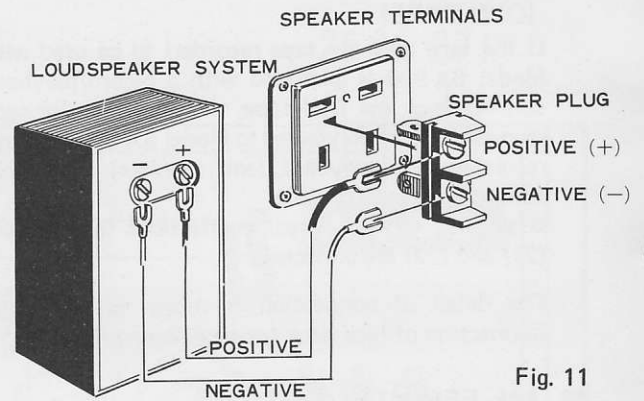

Fig. 11
- To connect a loudspeaker, take out a speaker connector plug from the accessories bag, and connect it to the leads of the loudspeaker as illustrated in Fig. 11. Be sure to connect them for the correct polarity.